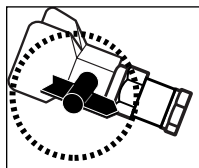

Figure 3 - Turn tip insert handle to clean position
- ▶ turn tip insert handle to the clean position (see Figure 3)